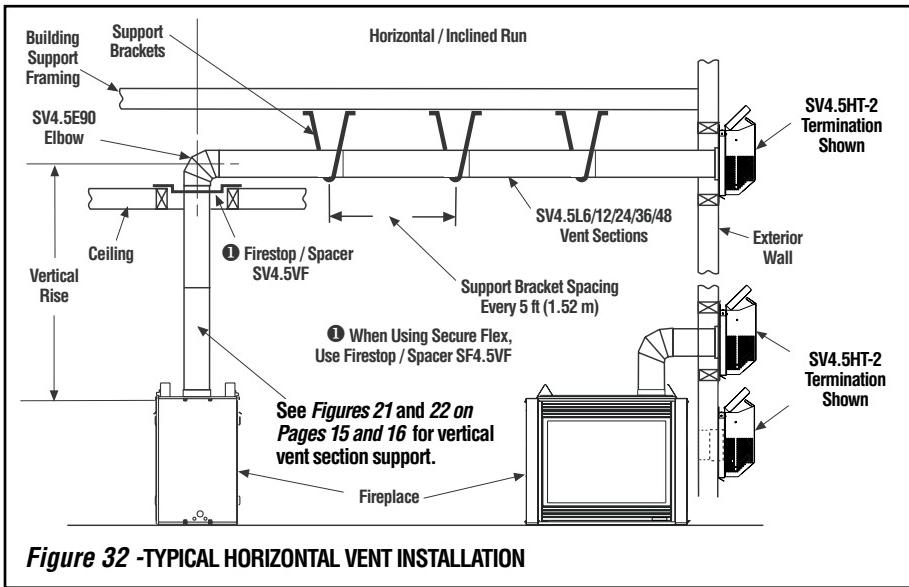

Figure 32 -TYPICAL HORIZONTAL VENT INSTALLATION
G. Continue installation of horizontal / inclined sections - Continue with the installation of the straight vent sections in horizontal / inclined run as described in **Step C**. Install support straps every 5 feet (1.52 m) along horizontal / inclined vent runs using conventional plumber's tape. **See Page 19, Figure 32. It is very important that the horizontal/inclined run be maintained in a straight (no dips) and recommended to be in a slightly elevated plane, in a direction away from the fireplace of 1/4" rise per foot (20 mm per meter) which is ideal**, though rise per foot run ratios that are smaller are acceptable all the way down to at or near level.
See **Figure 32**, and **Figures 35 to 40 (Pages 21 to 23)** and their associated Horizontal Vent Table which illustrates the horizontal venting configurations that are allowed to be used with these appliances. **Secure Vent™** pipe applications are shown in these figures; **Secure Flex™** pipe may also be used (see **Page 24**). A Horizontal Vent Table summarizes each system's minimum and maximum vertical and horizontal length values that can be used to design and install the vent components in a variety of applications.
I. Continue installation of horizontal/inclined sections - Continue with the installation of the straight vent sections in horizontal / inclined run as described in **Step E**. Install support straps every 5 ft. (1.52 m) along horizontal / inclined vent runs using conventional plumber's tape. See **Figure 32**. **It is very important that the horizontal / inclined run be maintained in a straight (no dips) and recommended to be in a slightly elevated plane, in a direction away from the fireplace of 1/4" rise per foot (20 mm per meter) which is ideal**, though rise per foot run ratios that are smaller are acceptable all the way down to at or near level.